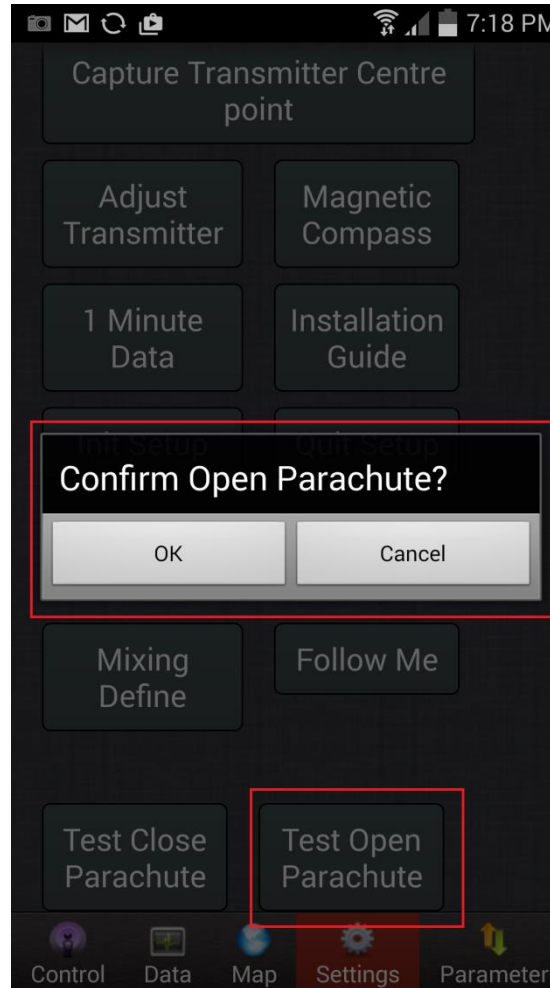

Figure17 Android GCS test-open
1. Click “Test Open Parachute” in the “Settings” interface to pop up the confirmation dialogue box, as shown in Figure17.